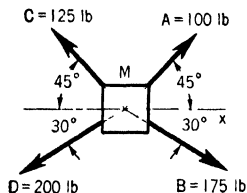

FIG. 388. RESULTANT OF FOUR FORCES, PROBLEM 2
2. In a tugging contest, four men pull in the directions and with the magnitudes shown in Fig. 388. Determine the resultant force. (Watch out for negative components.) Which side (A and B vs. C and D) wins this contest?